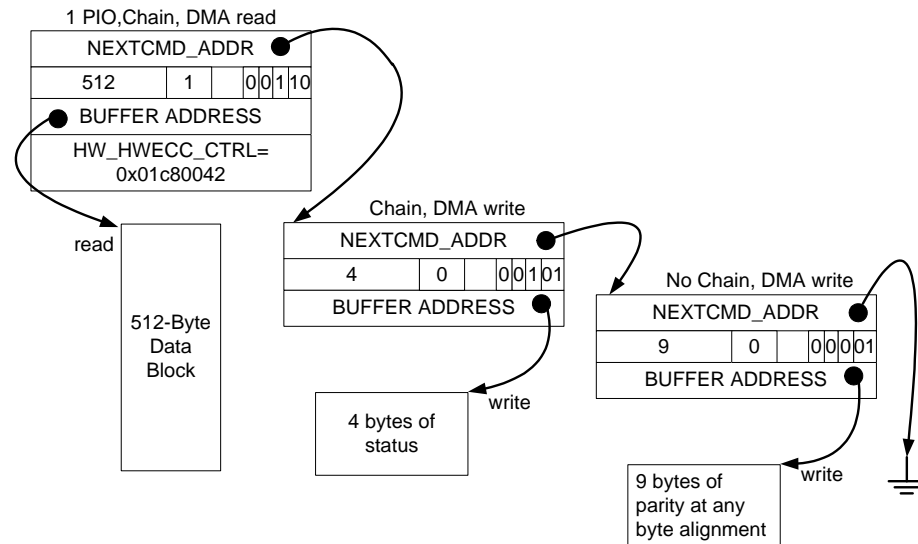

Figure 52. Hardware ECC Reed-Solomon Encode DMA Chain
- Create a DMA command chain with two command structures on it (as shown in Figure 52). The first command structure points to the 512-byte data block that is to be RS-encoded. The second points to a 12-byte (3-word) area to receive the computed parity. Only 9 bytes will be written into this 12-byte buffer.